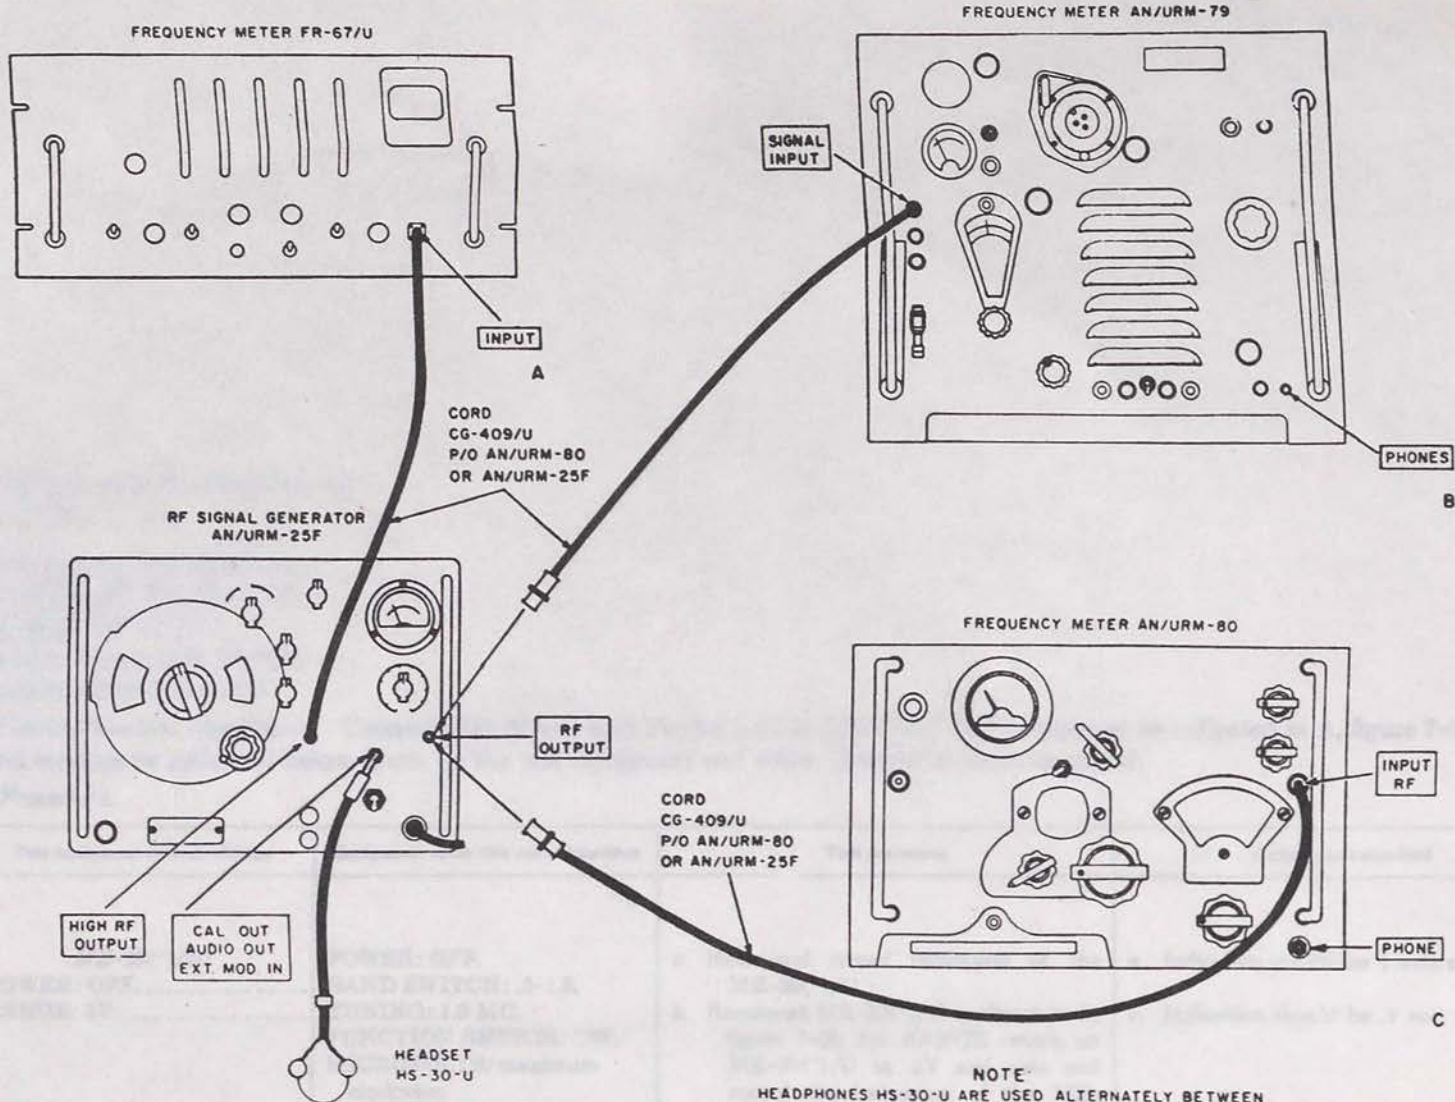

Figure 7-17. Frequency and calibration test.
(fig. 7-17)
b. Test Connections and Conditions. Connect the FR-67/U to the AN/URM-25F as indicated in A, Figure 7-17. Turn test equipment on and allow 20 minutes minimum warmup period.